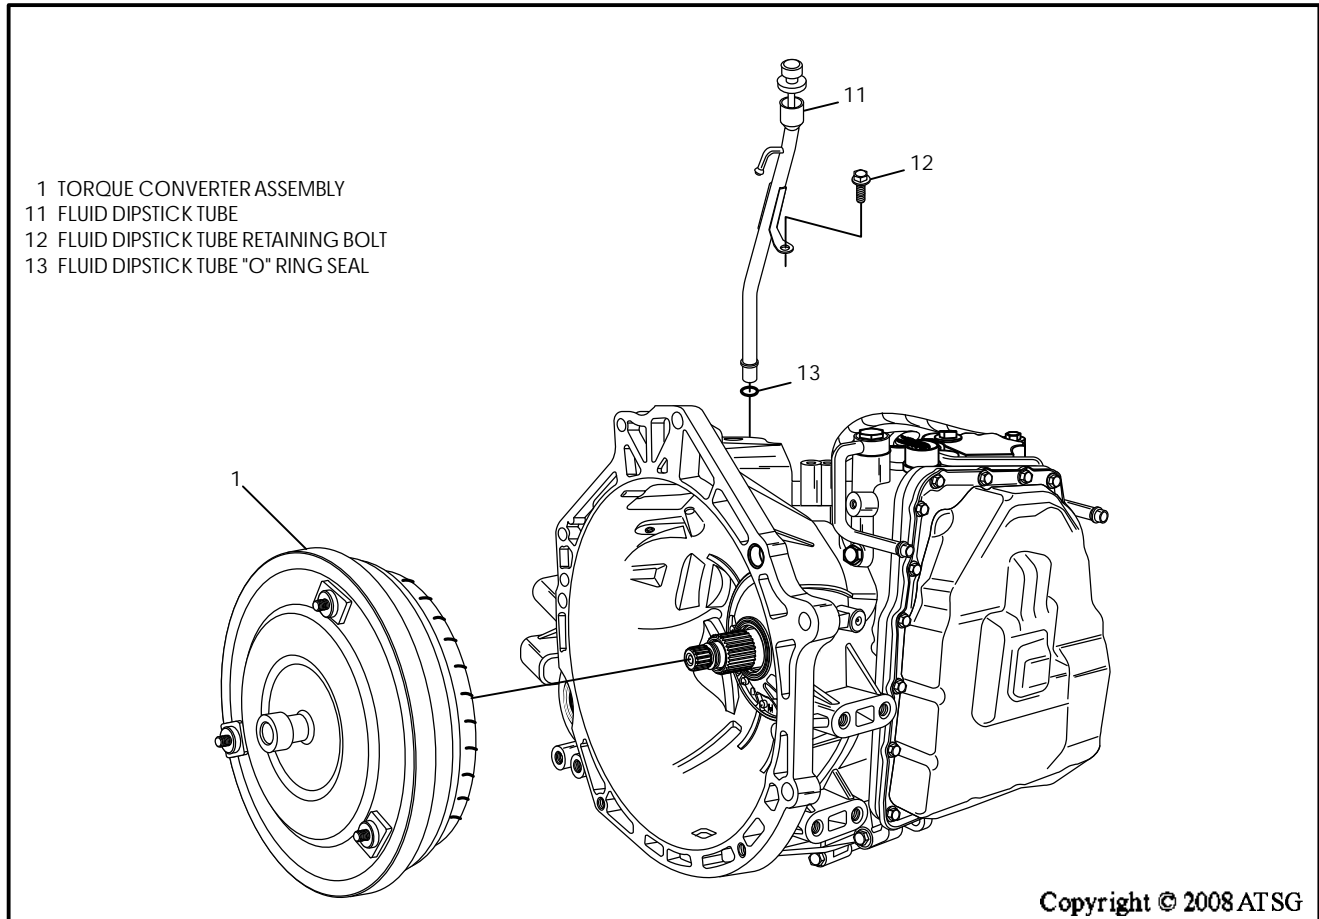

Figure 241
8. Install new "O" ring on dipstick tube, as shown in Figure 241, and lube with a small amount of Trans-Jel®.
9. Install the dipstick and tube assembly, as shown in Figure 241, and torque the retaining bolt to 10 N·m (90 in.lb.).
11. Install the torque converter assembly, using a rotating motion so as to engage oil pump gear, as shown in Figure 241.